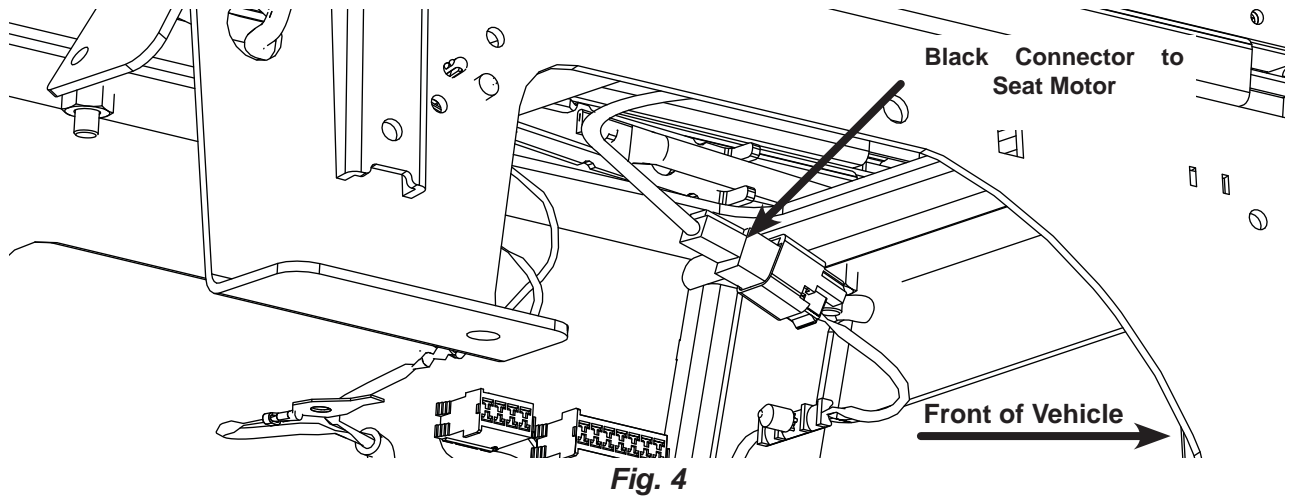

Fig. 4
6. Disconnect black connector to motor located under fixed seat riser See Fig. 4